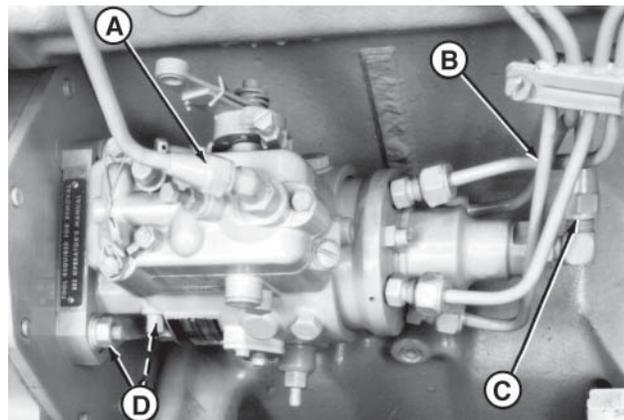

Figure 15 Reproduced by permission of Deere & Company, c2000. Deere & Company, All rights reserved.
- Disconnect fuel return line (Figure 15-A) and fuel supply line (Figure 15-C).
4. Disconnect all fuel delivery (pressure) lines (Figure 15-B) from injection pump using a suitable 17mm deep-well crowsfoot socket.